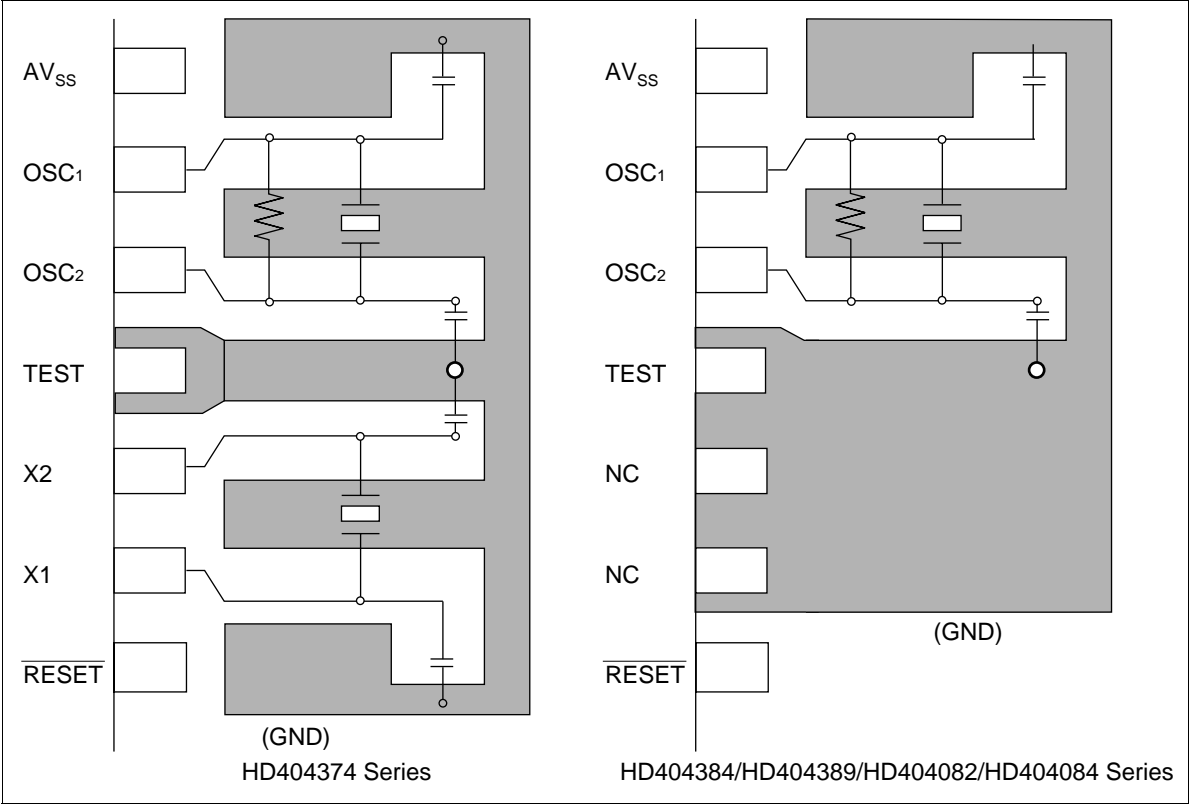

Figure 23 Typical Layouts of Crystal and Ceramic Oscillator
2. Make the connections between the OSC₁ and OSC₂ pins (X1 and X2 pins) and external components as short as possible, and ensure that no other lines cross these lines (see layout example in figure 23).